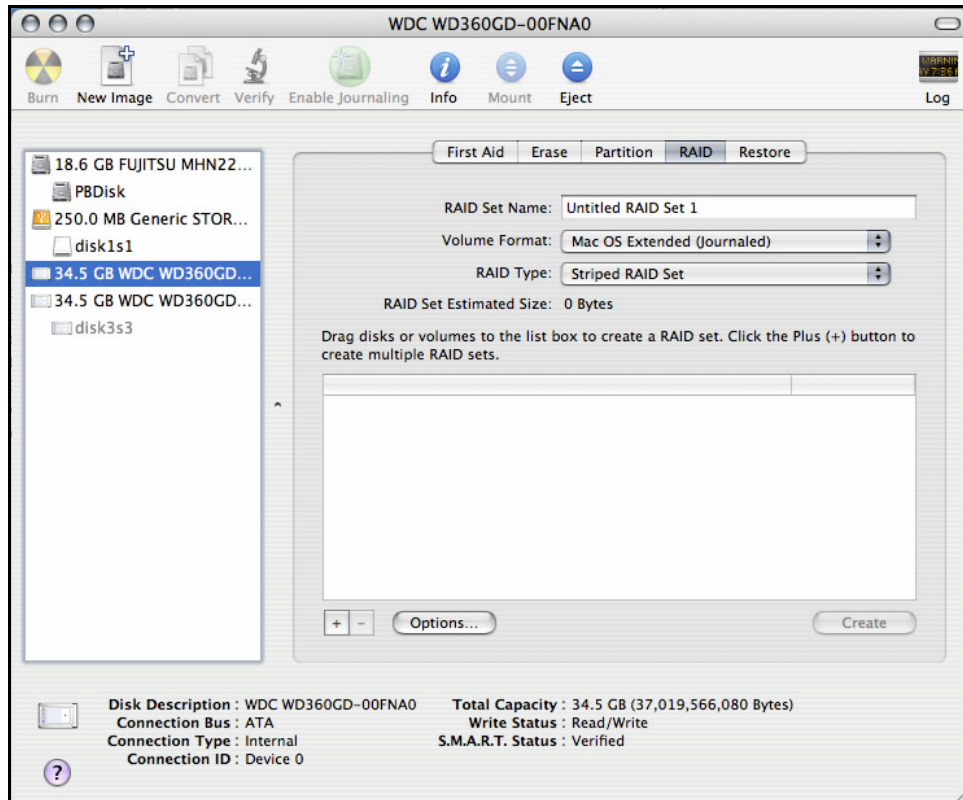

Figure 15: Selecting the RAID tab in Apple's *Disk Utility*
4. Select the *RAID* tab in Apple's *Disk Utility* (see Figure 15).